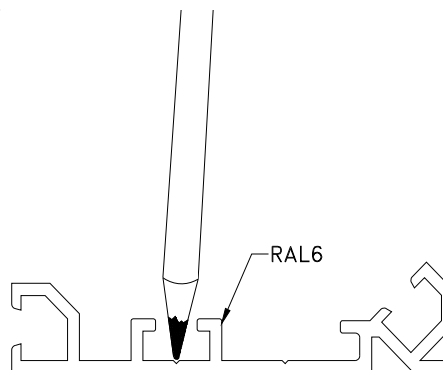

Figure 2
STEP 2. Select one base member extrusion, and mark the locations of the anchor holes on the base member. Locate the anchor holes in the base member extrusion's anchor channel (see Figure 2). The anchor holes are spaced a maximum of 20" o.c. with an anchor hole a nominal 3" from each end of the extrusion. Repeat this procedure for each base member section.